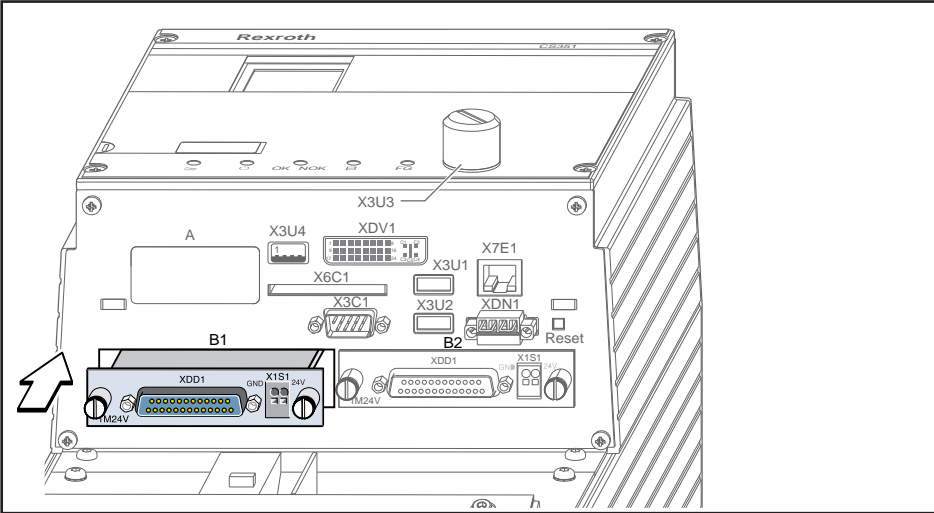

Fig. 6: Example: Slots B1, B2 on the CS351 Compact System
2. Insert the IM24V interface module into the appropriate slot on the system component (B1 or B2) until it catches (example in Fig. 6).